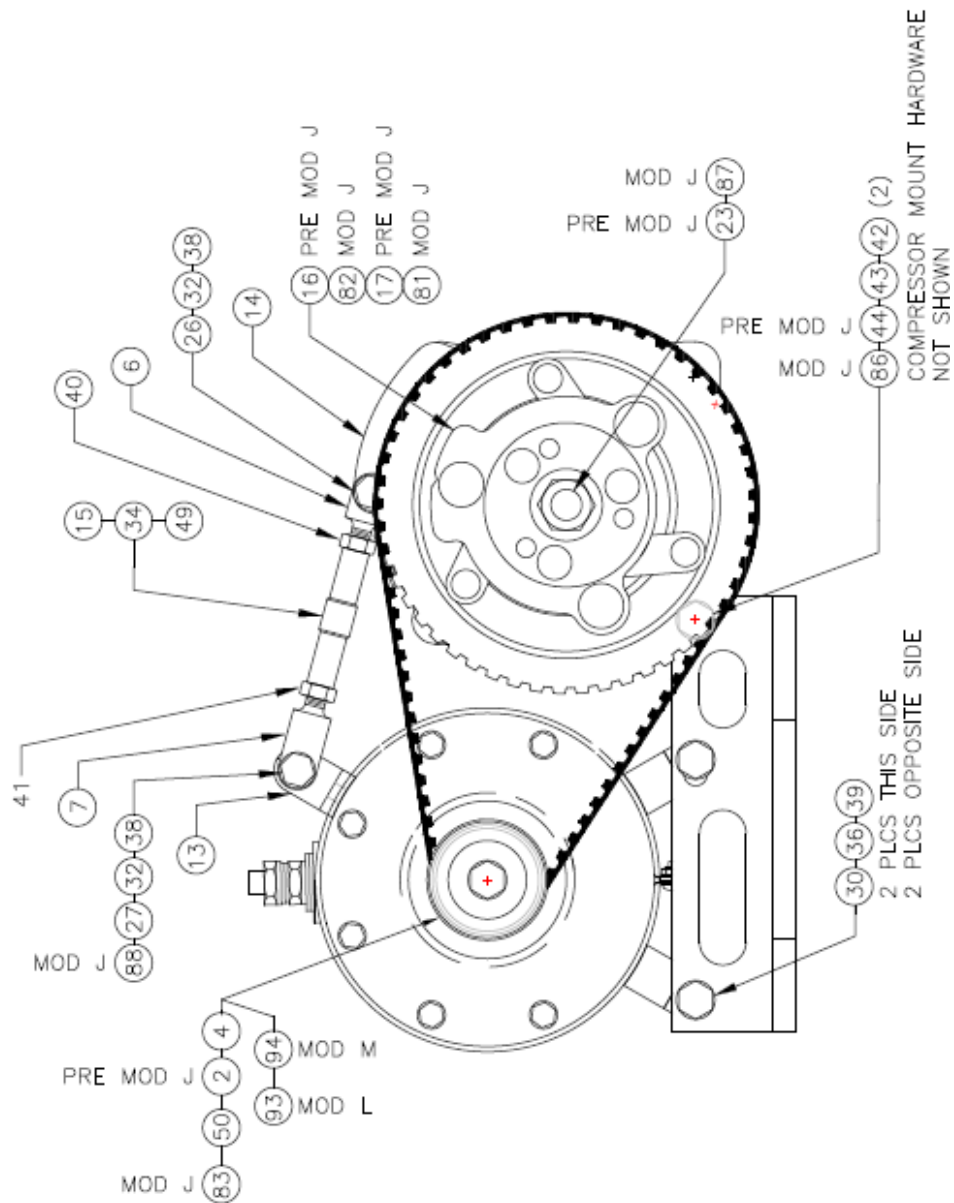

FIG. 1
10.4 REVISION 4. Clarify MOD L parts. Update FIG. 1 & 3 & 6.